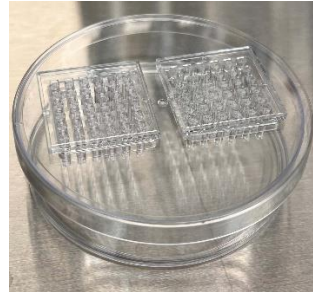

Figure 1. Hydration of the pillar plate surface in a 90 x 15 mm petri dish with 2 mL of sterile, distilled water to minimize air bubble entrapment.
- Hydrate the surface of the pillar plate by inserting two 36PillarPlates in the 36PetriLid on a 90 x 15 mm petri dish containing 2 mL of sterile, distilled water and placing it in a 5% CO₂ incubator at 37°C for 20 - 30 minutes (**Fig. 1**).